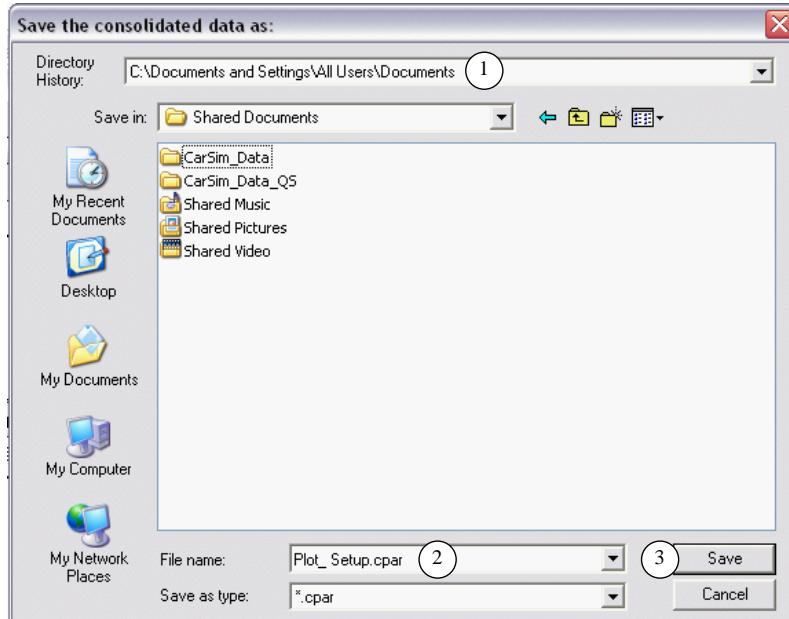

Figure 73. Specify name and location for consolidated parsfile.
- Click the button **Export to Consolidated Parsfile** (6). A dialog box appears for you to specify the name and location of the file that is about to be created (Figure 73). Choose a location that is convenient for you (1). (Remember where you create this file, because you will need to find a few steps later!) The default name is the name of the library (2); you can accept this or change it if you wish. Click the **Save** button (3) to complete this action.